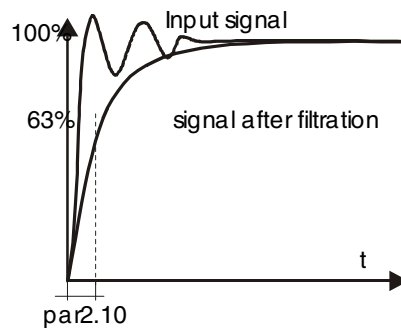

Fig. 7.8 Filter of a signal from an analogue input
- START/STOP LR [ST/STOP LP] InC1 [WeC1] is for command “START/STOP” [START/STOP], InC2 [WeC2] for change of a direction (Fig.7.8 a)
- ST\_L ST\_R [“ST\_L ST\_R”], InC1 [WeC1] - START ON THE LEFT, InC2[WeC2] - START TO THE RIGHT (Fig.7.8 б);
- ST-IM STOP [“ST-IM STOP”] InC1 [WeC1] START WITH IMPULSE / InC2 [WeC2] – STOP (Fig. 7.8 B);
- ST-IM L/R [“ST-IM L/R”] InC1 [WeC1] START WITH IMPULSE / InC3 [WeC3] – choice of direction (Fig. 7.8 r);